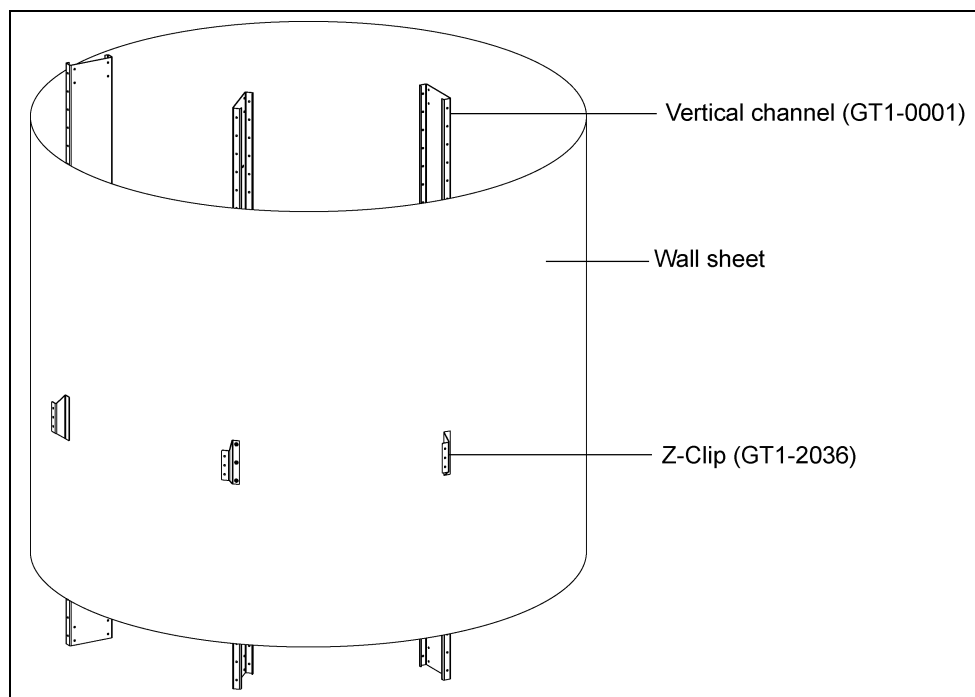

Figure 6A Offset Z-Clip Installation
1. Bolt Z-clips (GT1-2036) to vertical channels (GT1-0001). The Z-clip can be installed on each vertical channel as wall sheets are installed using 3/8"-16 x 1" YDP grade 8 or grade 8.2 bolts (S-7927) and 3/8"-16 ZN grade 5 nuts (S-968). (See Figure 6A, Figure 6B below, Figure 6C and Figure 6D on Page 41.)